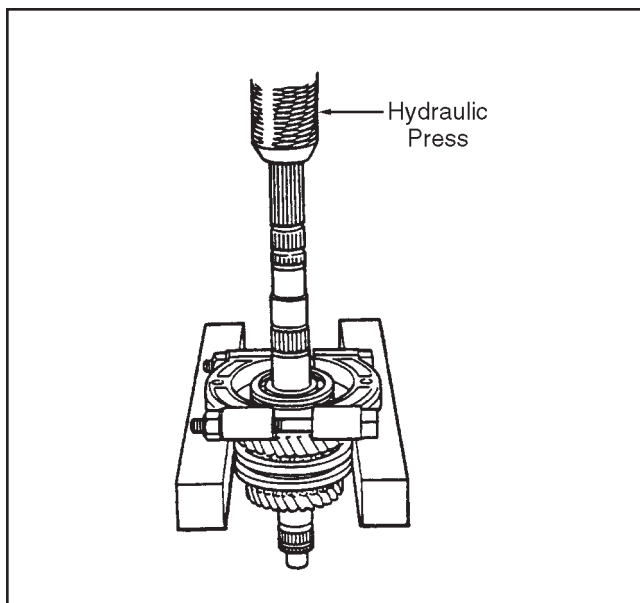

Figure 4H-11. Main Shaft — Step 7
8. Remove low gear, needle bearing and synchronizer ring from main shaft as shown in Figure 4H-9.